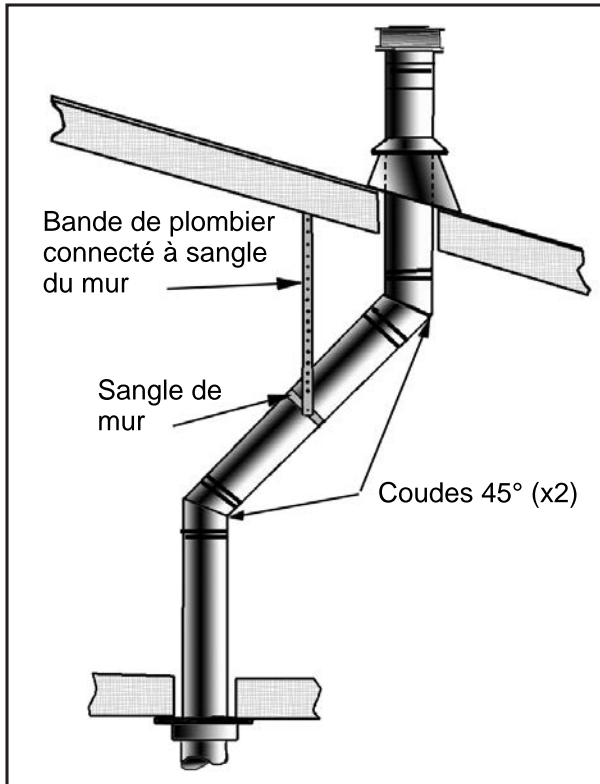
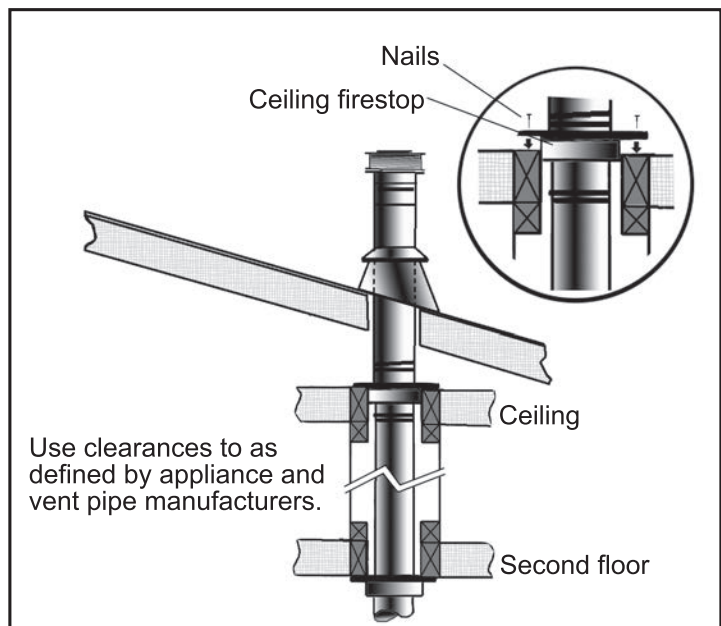

Figure 29: Use of Wall Straps.
Figure 30: Multi-Story Vent Pipe Installation
- (1) If an offset is necessary in the attic to avoid obstructions, it is important to support the vent pipe every **3' (914 mm)**, to avoid excessive stress on the elbows, and possible separation. Wall straps are available for this purpose (see Figure 29).
- (2) When ever possible, use 45° degree elbows instead of 90° degree elbows. The 45° degree elbow offers less restriction to the flow of flue gases and intake air.
- (3) For multi story installations; a ceiling firestop is required at the second floor, and any subsequent floors (see Figure 30). The opening should be framed to **10" (254 mm) x 10" (254 mm)** inside dimensions, in the same manner as shown in Figure 21.
- (4) Any occupied areas above the first floor, including closets and storage spaces, which the vertical vent passes through, must be enclosed. The enclosure may be framed and sheet-rocked with standard building materials. However consult the appliance manufactures installation instructions for the minimum allowable clearance between the outside of the vent pipe, and the combustibile surfaces of the enclosure. Do not fill any required air spaces with insulation.
The pressure taps are located on the top right of the valve shown in Figure 30.